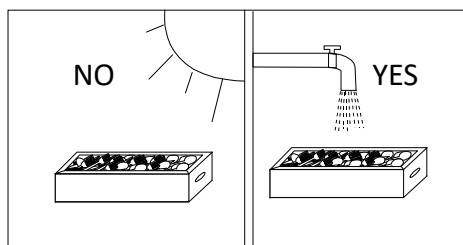

FIG. 5
- The cutlery should always be damp before introducing it into the machine. It's completely ineffective with dry cutlery. (FIG.5)